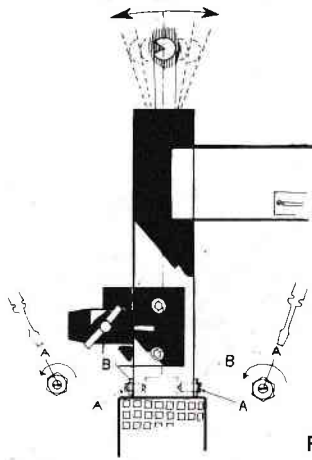

Fig. 39
3. Loosen nuts "B" and move the screws "A" (fig. 39) half the deviation towards the zero line.